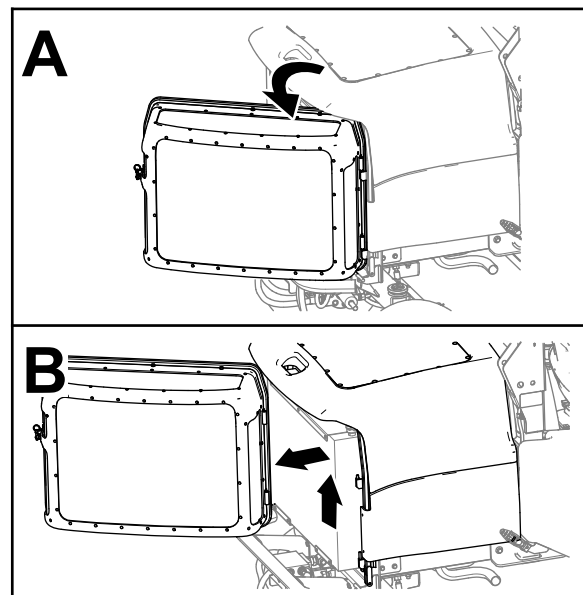

Figure 64
3. Unlatch the engine screen, open it, and lift it from the machine (Figure 64).